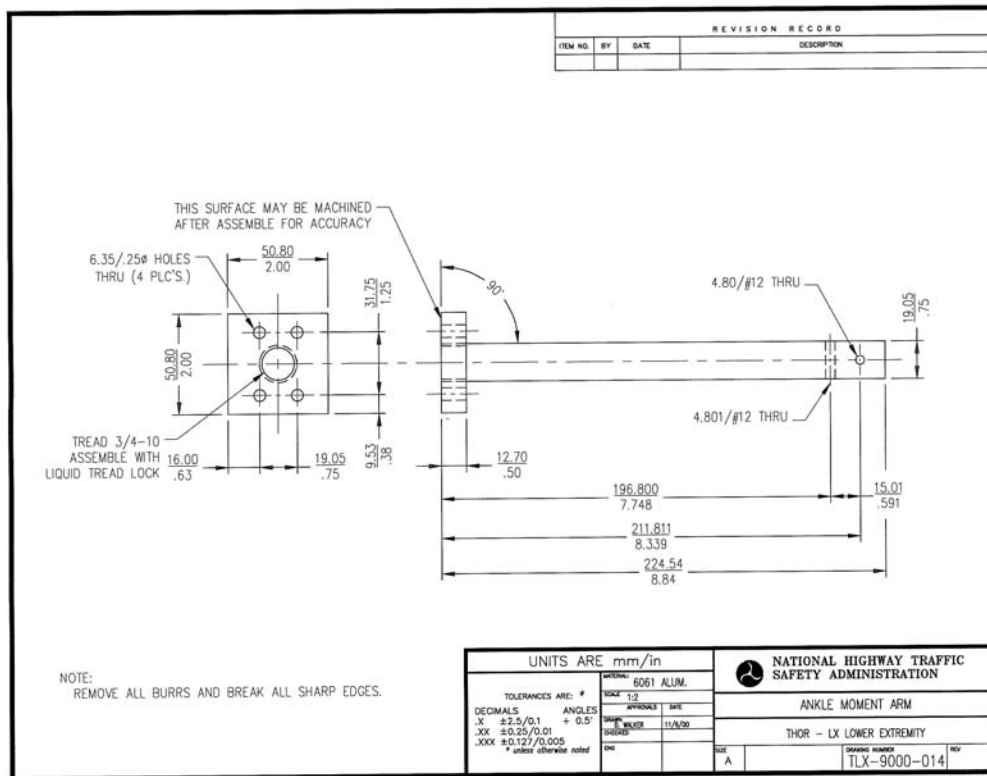

Figure B-6. Ankle Moment Arm for Quasi-static Tests
- Ankle Moment Arm (TLX-9000-014, Figure B-6)